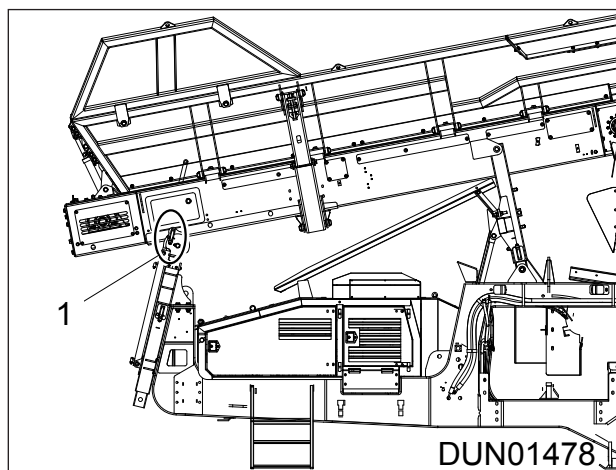

Figure 6.25 - Hopper Angled Working Position
6. Insert pin (Item 1; Ref. Figure 6.25) to secure the hopper in this position.